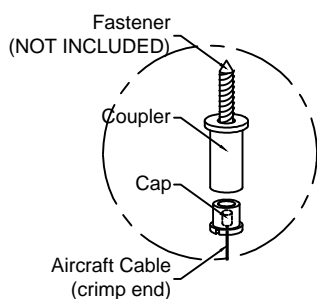

Figure 2
3. Unscrew and open the suspension hub, pass the aircraft cables (ball end) through the bottom piece of suspension hub - see Figure 2
5. Pass the vertical aircraft cable's loose end through the top cap and the middle gripper piece of the suspension hub, the height of the fixture can be adjusted by pressing down on the tip of the gripper mechanism - see Figure 2
1. Mount the couplers to the ceiling using appropriate fasteners (NOT INCLUDED) according to the structure of the ceiling - see Figure 2